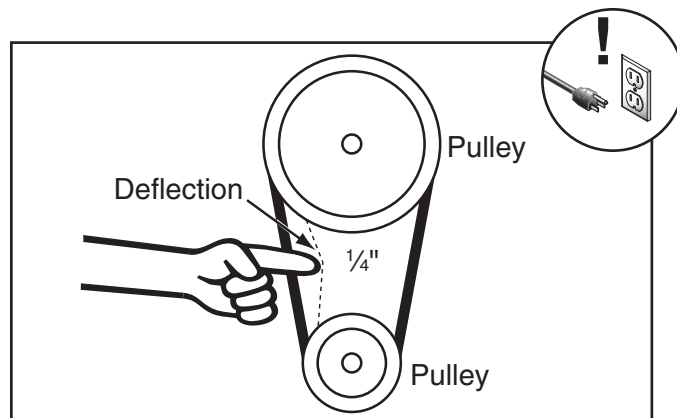

Figure 103. Correct timing-belt deflection.
5. Check the timing belt tension: It is correctly tensioned when there is approximately 1/4" deflection when it is pushed with moderate pressure, as shown in **Figure 103**.